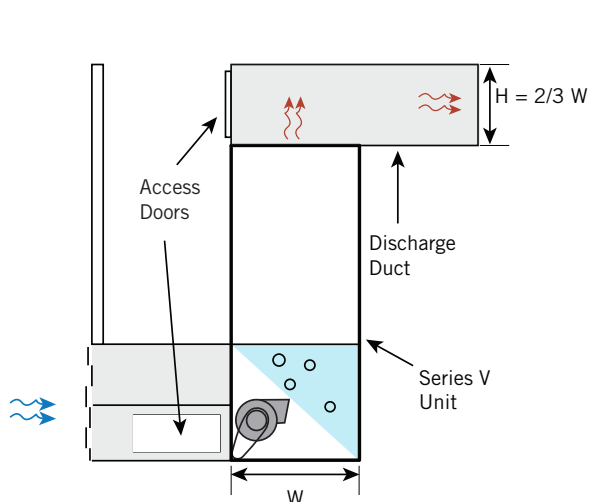

Figure 13a. Elevation Side View of Ducted Unit Enclosure
- Turns in intake or discharge ducts should be avoided. Where turns must be used, velocities should be minimized in the vicinity of the turn. Turns in discharge ducting should be designed in accordance with the "2/3's rule" shown in **Figure 13a** and **13b**.